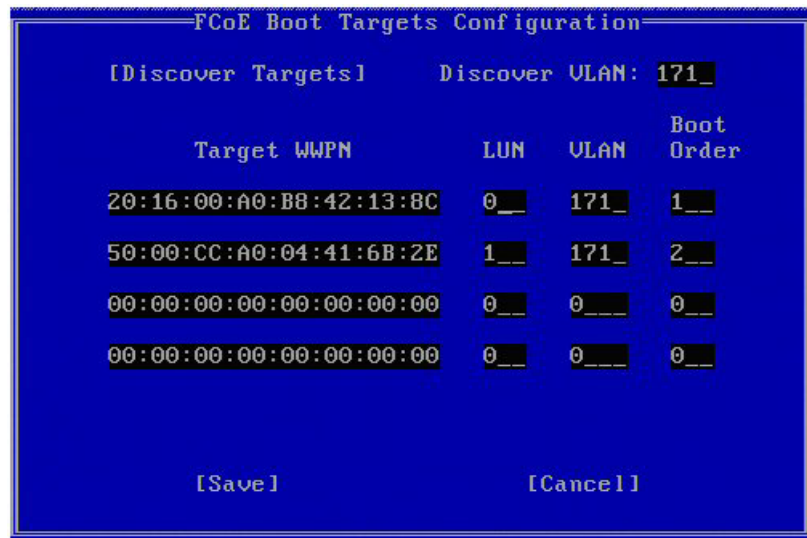

Figure 41 Configuring the LUN and boot order
7. Manually fill in the LUN and Boot Order values, as shown in Figure 41.